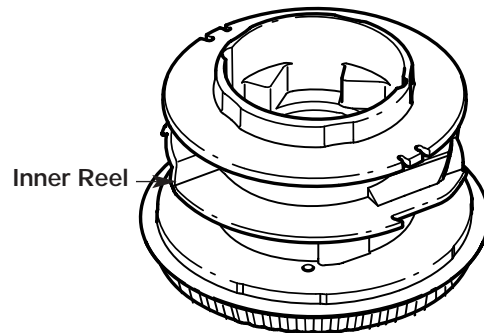

Fig. 21
4. Remove any existing line from the inner reel before cleaning. Remove any debris or grass from the knob, spring, inner reel and foam seal. Wash the inner reel with warm soapy water (Fig. 21).